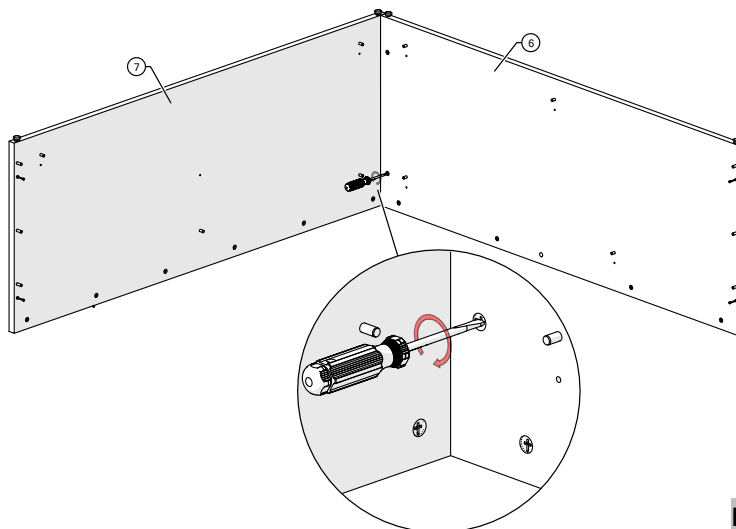

Figure 9
9. Turn the Cams using a screwdriver in a clockwise direction to smoothly lock the modesty LH and modesty RH together (Figure 9).